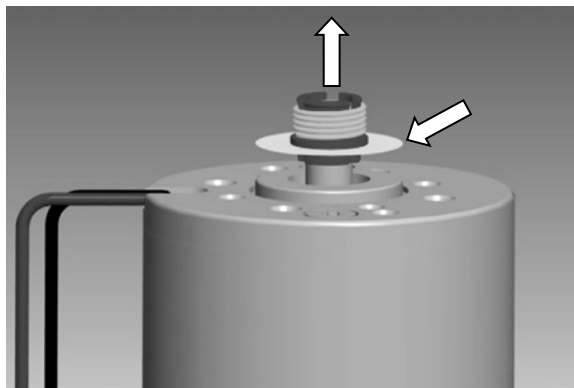

Figure 3
- Remove the Decoder Wheel from the motor shaft by pulling straight up (Figure 3).